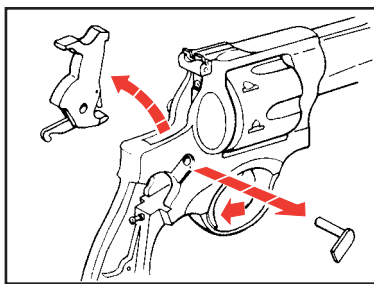

Figure 14
2. With the trigger pulled, remove the hammer pivot assembly and hammer (See Figure 14). At this stage of disassembly, return to the Disassembly instructions on page 20 and pick up with numbered paragraph 5.